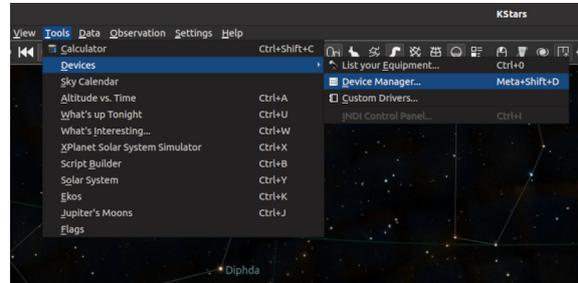

Figure 14: Connecting to an INDI Server in *KStars* is especially easy – just open the **Tools** → **Devices** → **Device Manager ...** dialogue ...
- Start *KStars*, and select Tools → Devices → Device Manager ... – see also Fig. 14.